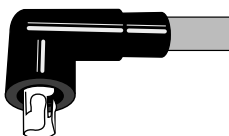

Figure 7
9. Pull the boot down over the terminal. (See Figure 7)